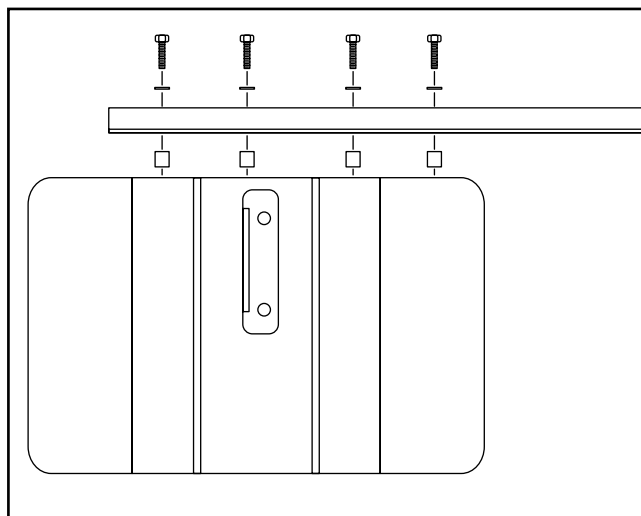

Figure 8. Rear rail attachment procedure.
2. Attach the rear rail to the table top using the spacers, hex bolts and lock washers supplied. See **Figure 8**. Using a combination square set at $\frac{15}{32}$ " , place at the edge of the table, and adjust the rail so it is consistently $\frac{15}{32}$ " below the top of the table.